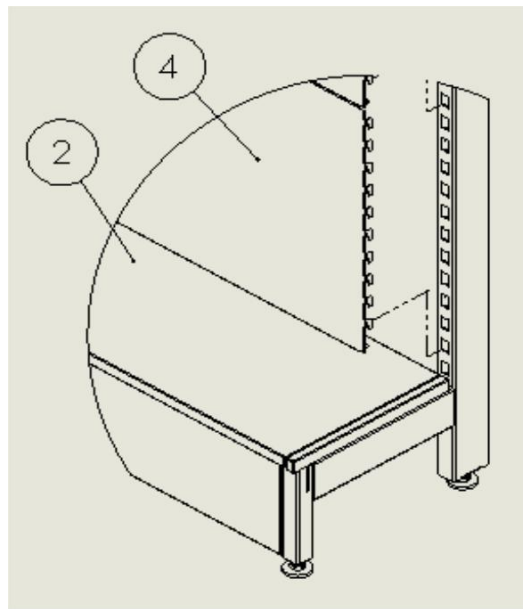

Figure 3
- 5** Insert 1 large plain panel (Item 4) so that the hook on the bottom of the plain panel inserts into the second bottom slot in the left and right legs as per (Figure 3)